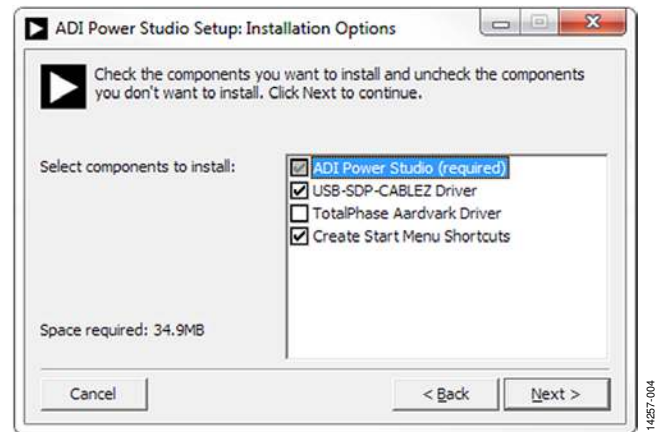

Figure 4. Installation Options
- In the **ADI Power Studio Setup: Installation Options** window, see Figure 4, **ADI Power Studio (required)**, **USB-SDP-CABLEZ Driver**, and **Create Start Menu Shortcuts** are preselected. If the USB-SDP-CABLEZ driver is already installed, uncheck the **USB-SDP-CABLEZ Driver** checkbox.